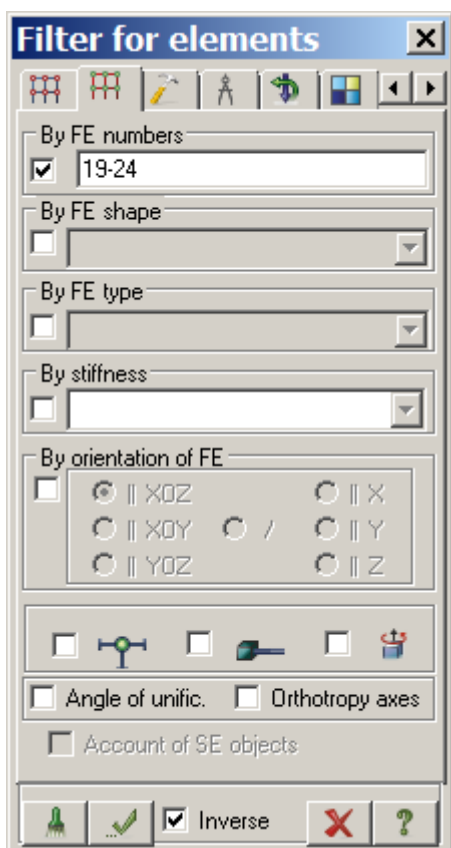

Figure 3.15 **Filter for elements** tab
- ⇒ In the **PolyFilter** dialog box, select the **Filter for elements** tab (the second tab) (see Fig.3.15).